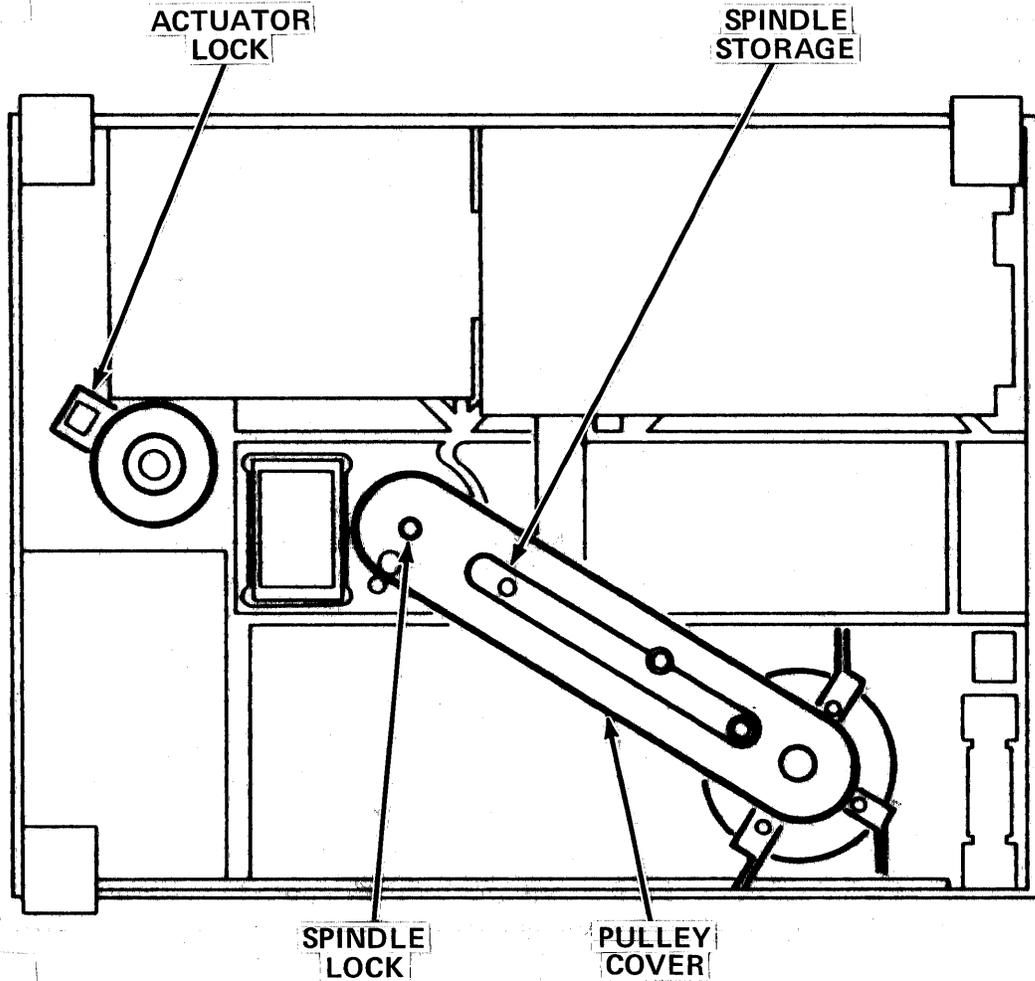

Figure 3-8: M26 Disk Drive (Spindle Lock and Actuator Lock)
NOTE: Before attempting to use any Morrow Designs software for the HDCA systems, be sure that the heads of the drives are unlocked. In the case of the M26, the spindle lock **MUST** be removed before power is applied (see Figure 3-8). After power is applied, the head (actuator) lock may be removed (see Figure 3-8). The M10 and M20 drives should be powered up and then the heads unlocked. Also note that the M26 drive takes as long as 2 1/2 minutes to become ready upon power-up. The M10/M20 drives require (on the average) 45 seconds to become ready.
2. Remove the cover, then unscrew the 4-40 x 9/16" spindle locking screw in the direction indicated by the yellow label in the drive pulley area (refer to Figure 3-8). This screw **MUST** be removed **BEFORE** applying power to the drive.
3. Place the external star washer and the spindle screw in the designated storage slot (again, refer to Figure 3-8). Replace the pulley cover.
6. With disk drive power ON, remove the "U-shaped" actuator lock (see Figure 3-8). Retain this lock for re-installation prior to transporting the drive.